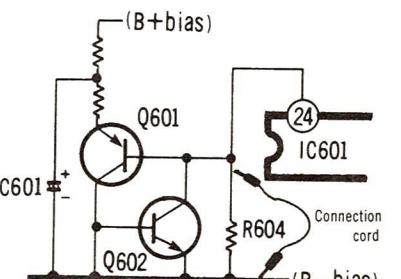

Fig. 17
I Fluorescent meter [TAPE 2] Condition: <ul style="list-style-type: none"> <li>Record mode</li> <li>Input level controls ... MAX</li> </ul> Equipment: <ul style="list-style-type: none"> <li>VTVM</li> <li>AF oscillator</li> <li>ATT</li> <li>Resistor (600Ω)</li> </ul>	<p>1. Test equipment connection is shown in fig. 17.</p> <p>2. Short R604 by connecting a connection cord across it, as shown in fig. 17, to stop oscillation of the astable multivibrator consisting of Q601 and Q602.</p> <p>3. Supply 1 kHz signal (<math>-24</math> dB) to the LINE IN then press the record button.</p> <p>4. Adjust the ATT so that the output level at LINE OUT becomes 0.4V (The input level at this condition is termed the standard input level).</p> <p>5. Adjustment at "<math>-20</math> dB":        A. Adjust the ATT so that the input level is <math>-20</math> dB below standard recording level.        B. Adjust VR601 so that the <math>-20 \pm 0.8</math> dB range (L-CH only) (See fig. 18).</p> <p>6. Adjustment at "0 dB":        A. Adjust the ATT so that the output level at LINE OUT becomes 0.4V.        (The input level at this condition is termed the standard input level).        B. Adjust VR602 so that the <math>+1</math> dB segment lights up in the <math>0 \pm 0.2</math> dB range of the standard input level (See fig. 19).</p> <p>7. Repeat twice between steps (5) and (6) above</p> <p>8. Adjust ATT and check that all segments lights up when an input signal level is increased to <math>10</math> dB higher than the standard input level (See fig. 20).</p> <p style="text-align: center;">Fig. 17</p> <p style="text-align: center;">Fig. 18</p> <p style="text-align: center;">Fig. 19</p>
1. Test equipment connection is shown in fig. 17.
2. Short R604 by connecting a connection cord across it, as shown in fig. 17, to stop oscillation of the astable multivibrator consisting of Q601 and Q602.